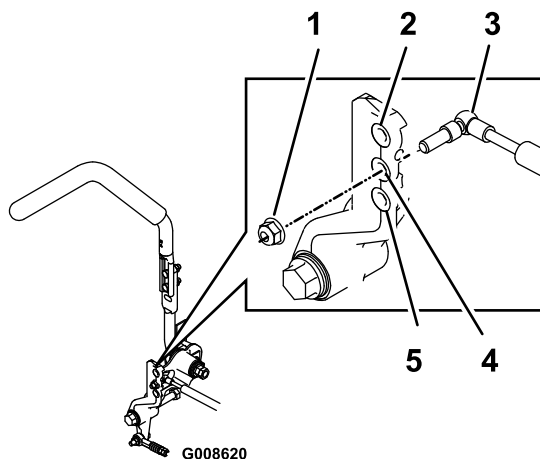

**Figure 64**
9. Adjust the pump control rod lengths by rotating the double nuts on the rod in the appropriate direction until the wheels slightly creep in reverse (Figure 64).